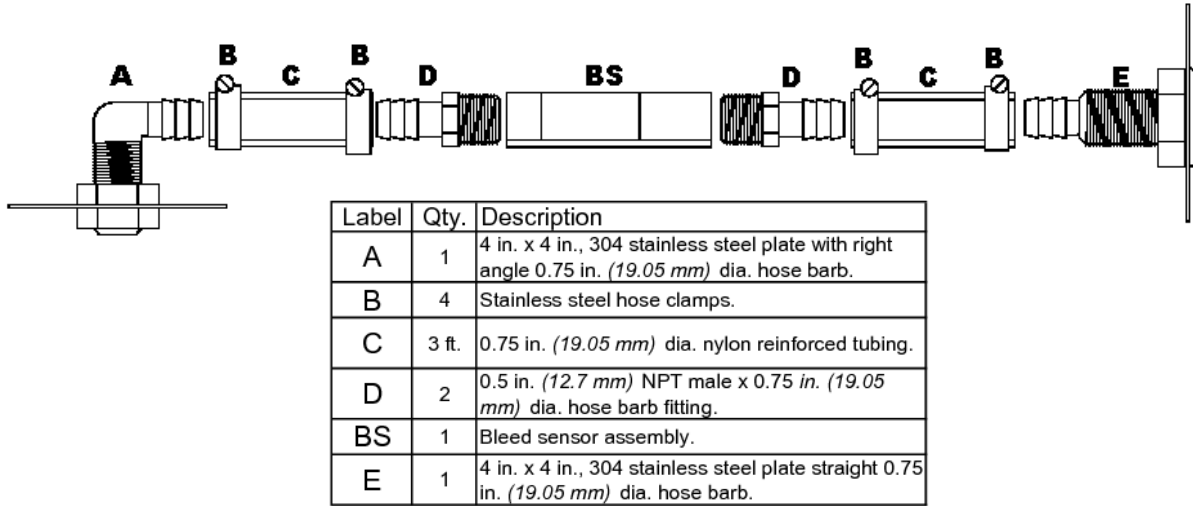

Figure 1. Plenum Damper Mounting Installation Kit Components
This document provides the instructions necessary to install the Bleed Airflow Sensor in plenum damper applications for relief and return damper control. Figures 1 and 2 show mounting kit components and installation details for the Plenum Damper Mounting kit.
The following paragraphs detail installation of bleed sensors in plenum damper applications for relief and return damper control. Refer to Figures 1 and 2 for installation details.
- d. Install tubing as shown in Figures 1 and 2, and secure with the pipe clamps provided. Keep tubing straight to avoid kinks.